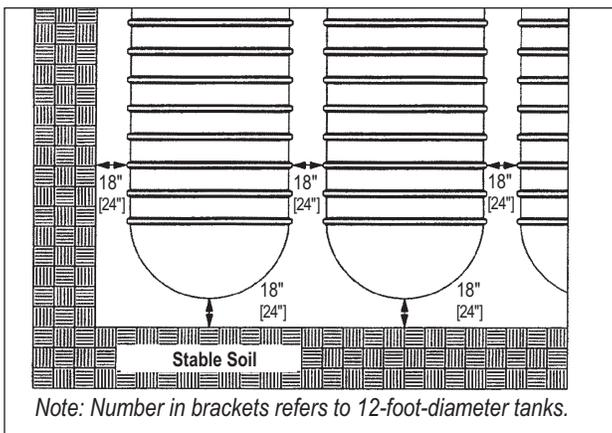

FIGURE 5-4
5.3.2.2. If more than one tank is to be installed in the same hole, allow for at least 18 inches between the tanks [24 inches for 12-foot-diameter tanks]. (See FIGURE 5-4.)